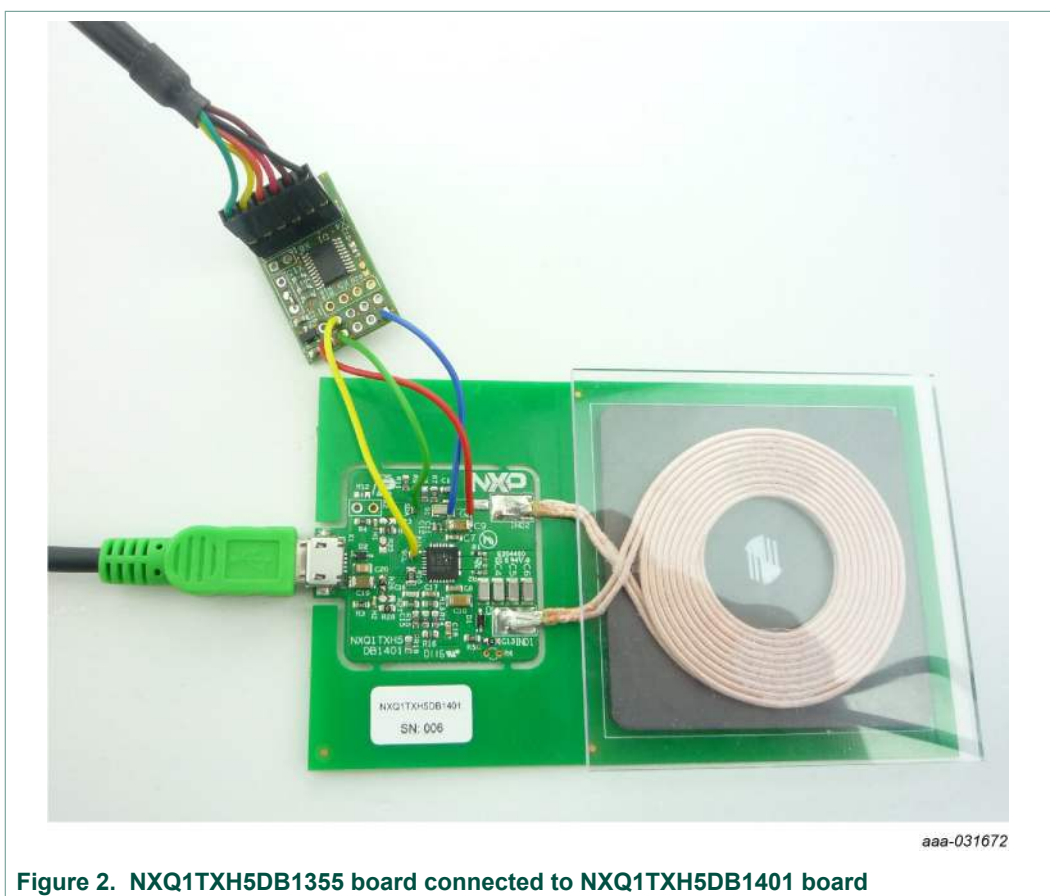

Figure 2. NXQ1TXH5DB1355 board connected to NXQ1TXH5DB1401 board
- Connect the NXQ1TXH5DB1355 board to the NXQ1TXH5DB1401 board as indicated in Figure 2.